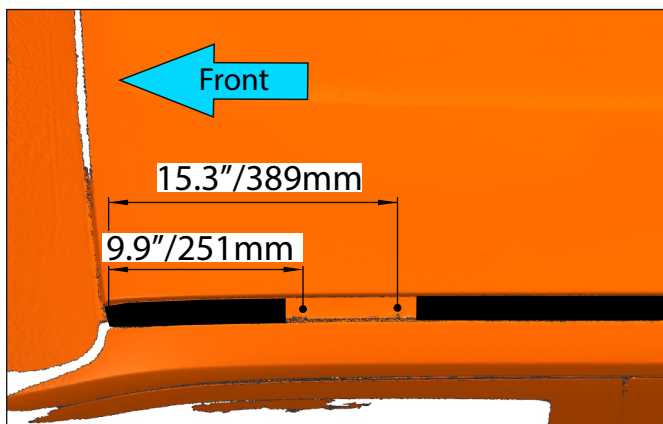
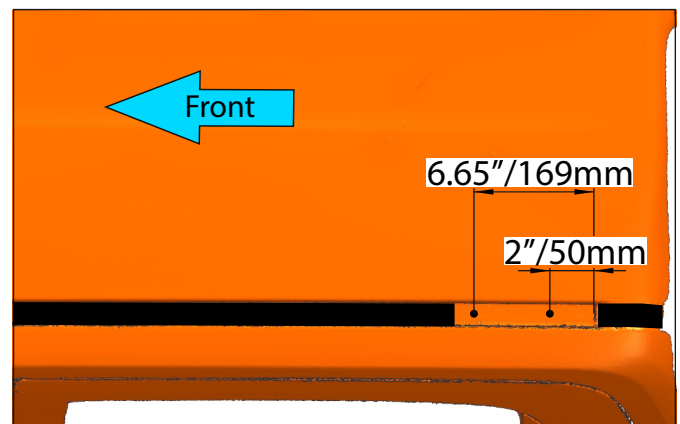

Fig. 3
Fig. 4
2. Drill $\frac{13}{32}$ " (10.3mm) diameter holes using dimensions: 9.9 inch (251mm), 15.3 inch (389mm), 2 inch (50mm) and 6.65 inch (169mm) as shown in fig.3 and fig.4 on both sides of the vehicle.